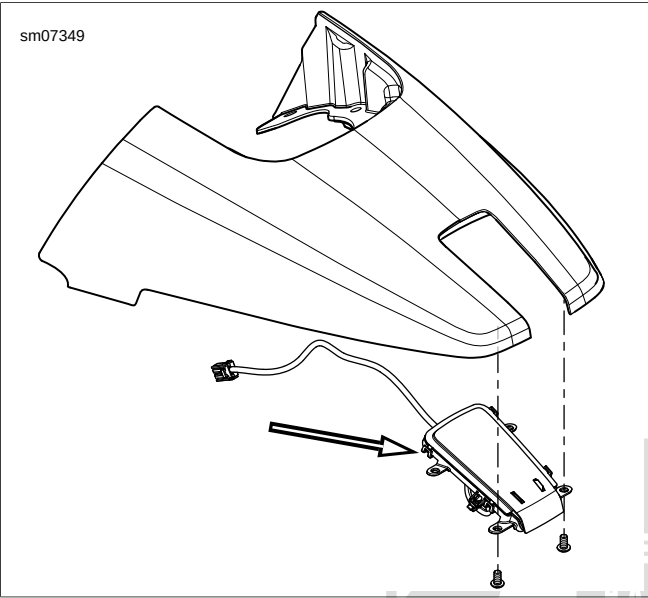

Figure 7-17. Tail Lamp
- 2. See Figure 7-17. Remove screws securing tail lamp and remove tail lamp.
- 1. See Figure 7-17. Install tail lamp with two screws. Tighten to 1.5-2.0 Nm (13-18 in-lbs)